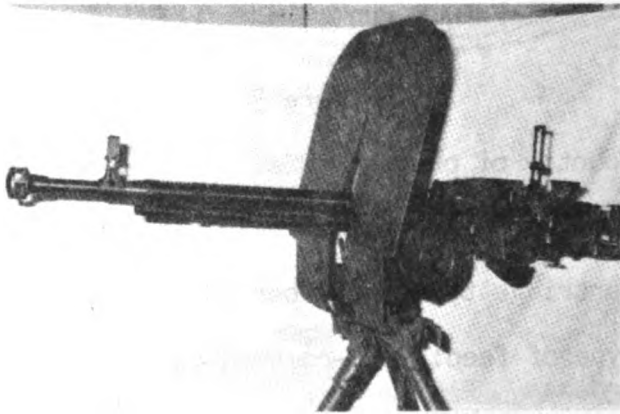

Figure 5
5. Identify The DSHK M-38/46. (See fig. 5.)